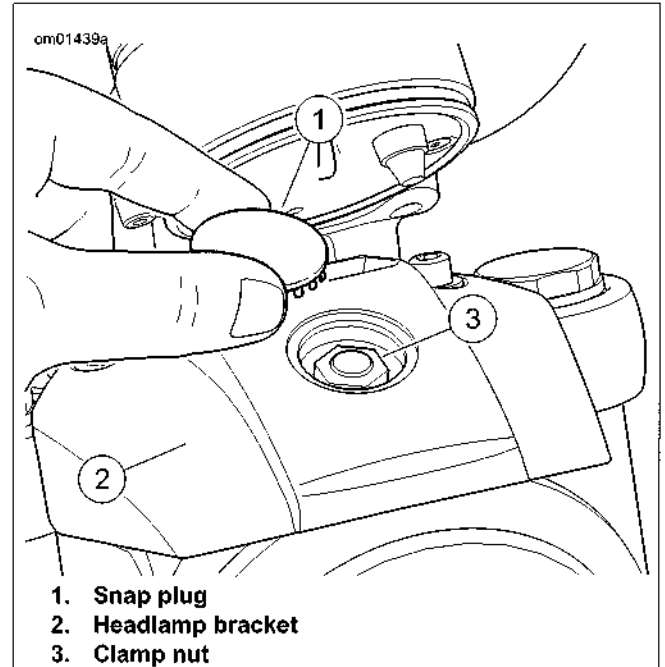

Figure 1-57. Headlamp Adjustment: XL 883R/L/N, XL 1200T
1. See Figure 1-57. Remove snap plug (1) on top of headlamp bracket (2).
2. Loosen headlamp clamp nut (3).